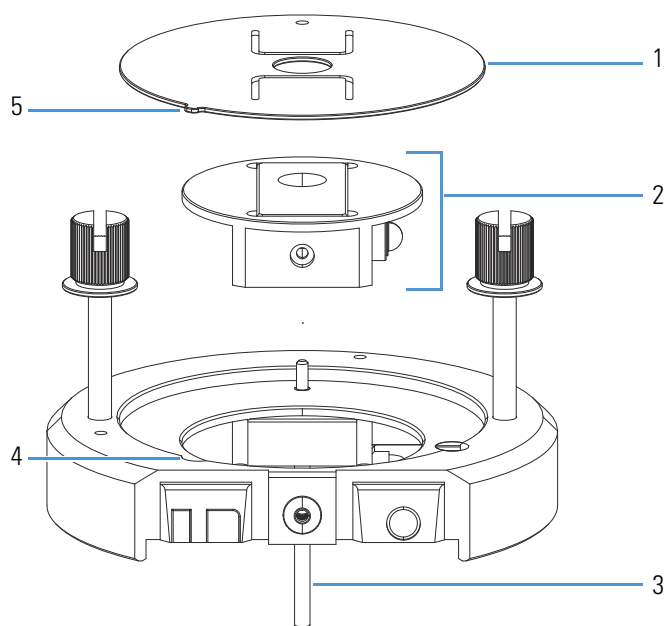

Figure A-5. Calibrant ion source removed from the IC source heater interface
2. From the bottom, press upward with your fingers to remove the Internal Calibrant discharge source retainer and the Internal Calibrant discharge source (Figure A-5).
2. Align the Internal Calibrant discharge source and the Internal Calibrant discharge source retainer as shown in Figure A-5 on page A-8. Then reinstall them into the IC source heater interface.
1. Align the guide pin on the IC source heater interface (Figure A-5 on page A-8) with the guide pin socket on the ion funnel, and then firmly press the heater interface until it snaps into place.